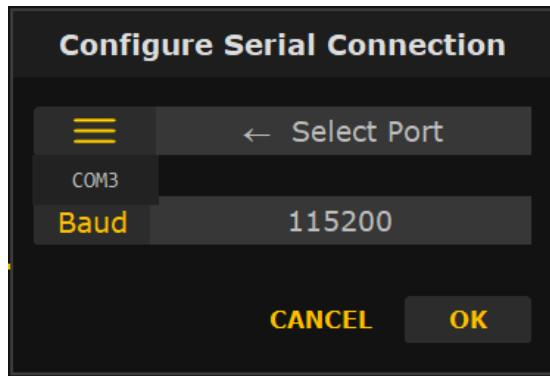

Figure 2: Loading the sensor into BonneChere
- A popup labelled “Configure Serial Connection” will appear. Click on the three horizontal lines as shown in Figure 2 below, and select the USB port the sensor is connected to.